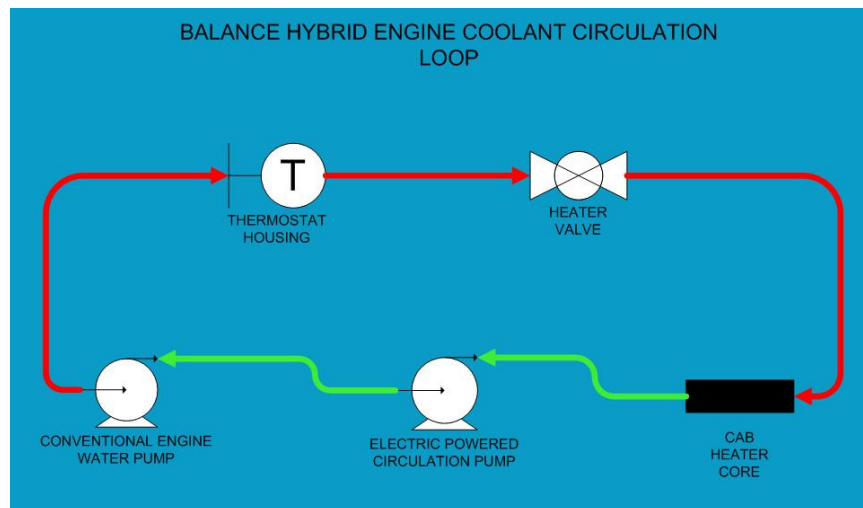

Figure 39: Engine Coolant Circulation Layout
- The pump must be located in the position indicated by "ELECTRIC POWERED CIRCULATION PUMP" in Figure 39, the loop diagram